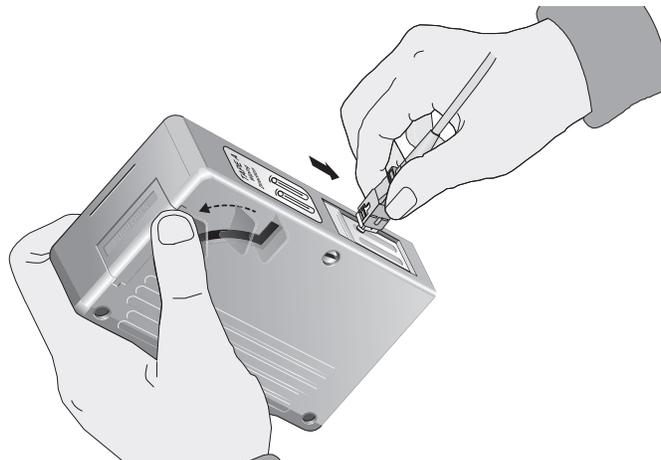

Figure 25. Rubbing the Ferrule Tip on the Cleaning Surface
2. With one hand, hold the cartridge cleaner and push the lever on the cleaning cartridge in the direction of the arrow to expose the cleaning surface, as shown in Figure 25.
3. Place the ferrule tip on the exposed cleaning surface and rub the ferrule in a downward direction, as shown in Figure 25.
1. Insert the swab into the adapter as shown in Figure 25 and rub the ferrule tip with the swab.